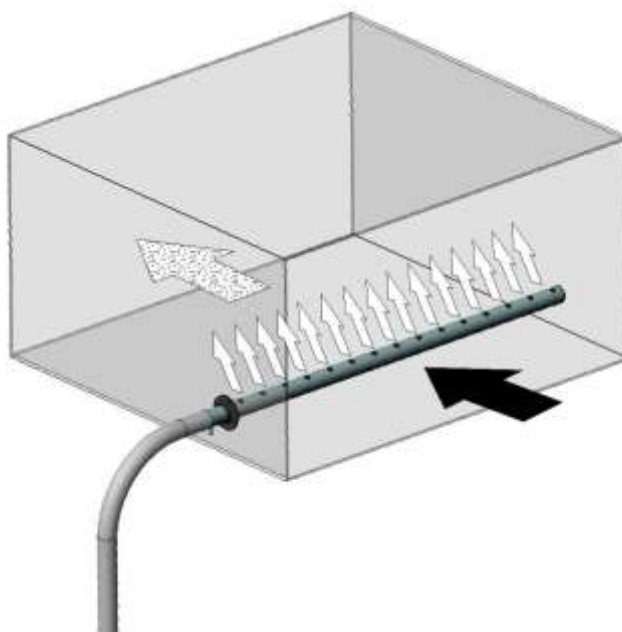

Fig. 41
**NB:** The maximum airflow pressure in the duct must not exceed 1,200Pa (fig. 41).